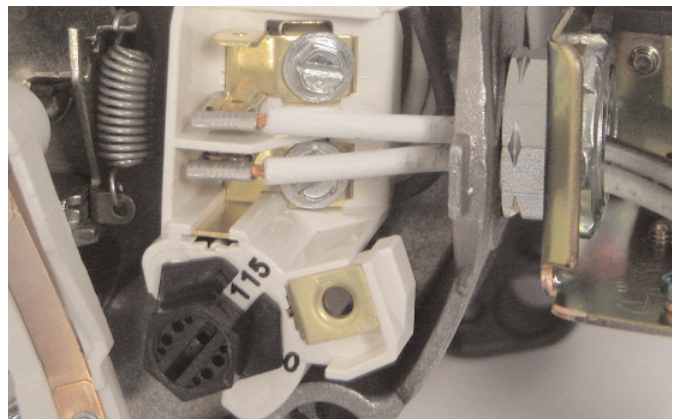

Figure 12: Voltage set to 115 volts, Dial Type
2. Turn the dial counter-clockwise until 115 shows in the dial window as shown in Figure 12.